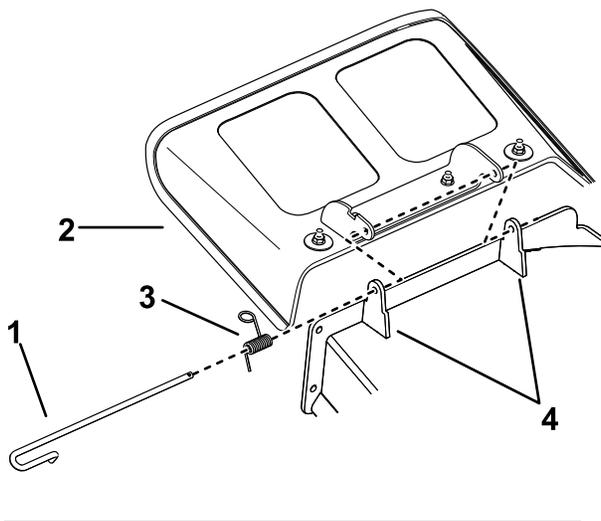

Figure 62
1. Disengage the spring from the notch in the deflector bracket and slide the rod out of the welded deck brackets, spring, and discharge deflector (Figure 62).